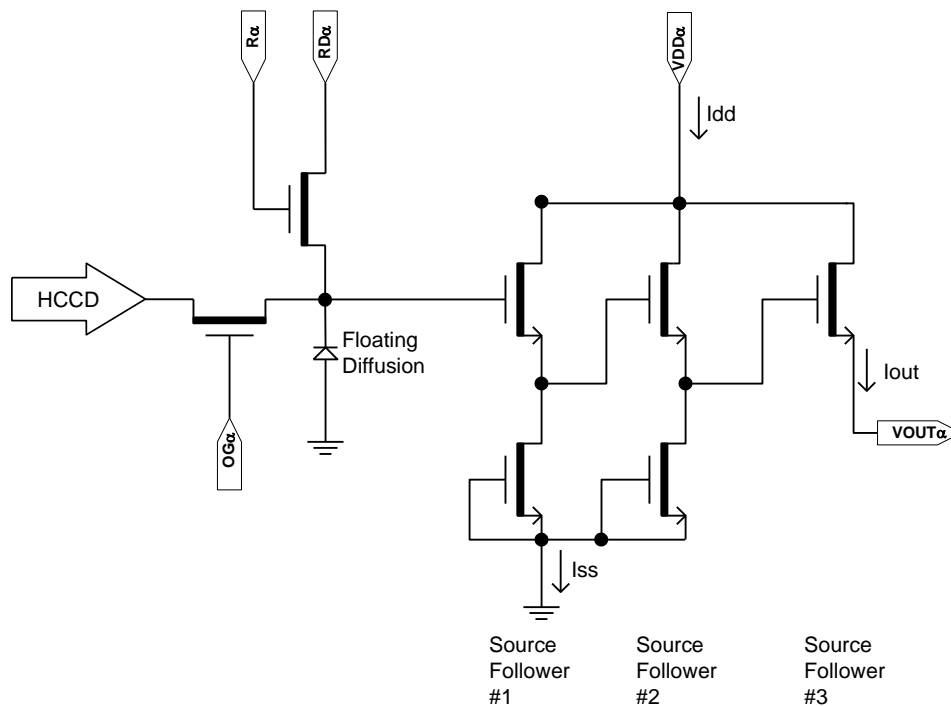

Figure 17: Output Amplifier
- The maximum DC current is for one output. Idd = Iout + Iss. See Figure 17.